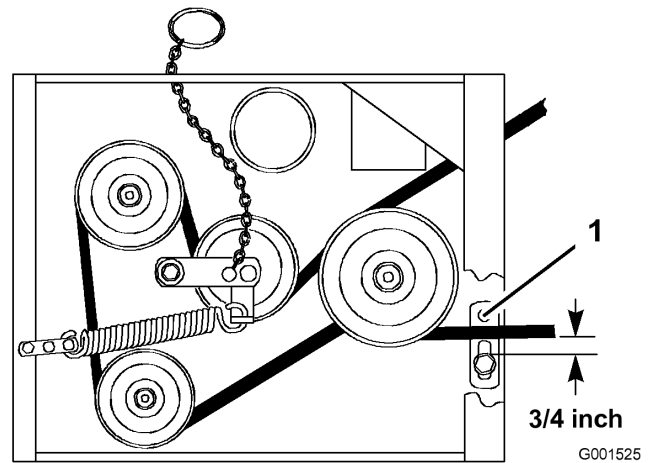

Figure 41
- Check the belt guide under the engine frame for proper adjustment (Figure 41).
Note: The distance between the belt guide and the mower belt should be 3/4 inch (19 mm) when you engage the mower belt (Figure 41). Adjust the mower belt as necessary. The disengaged belt should not drag or fall off the pulley when the guides and belt tension are properly adjusted.